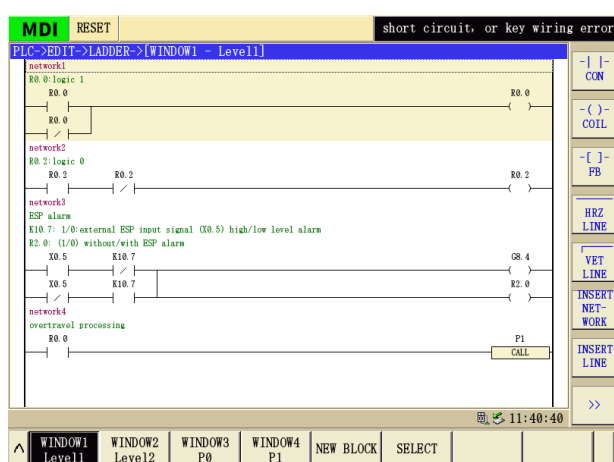
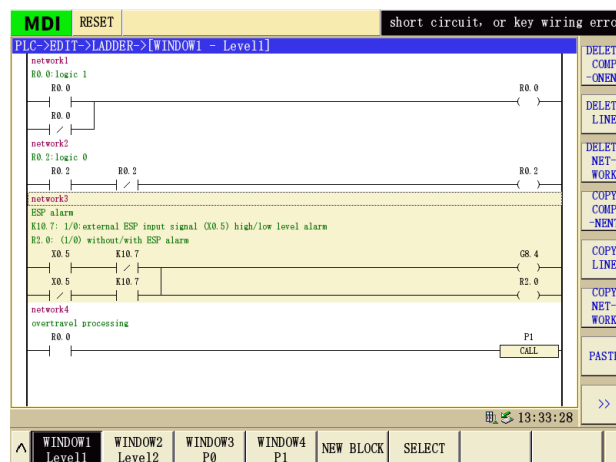

Fig. 1-23
Fig. 1-24
- First select the window block program to be edited, press **EDIT** the soft key to enter the edit program page (as shown in Fig. 1-23), and press **>>** the soft key to display the extended soft keys (as shown in Fig. 1-24).